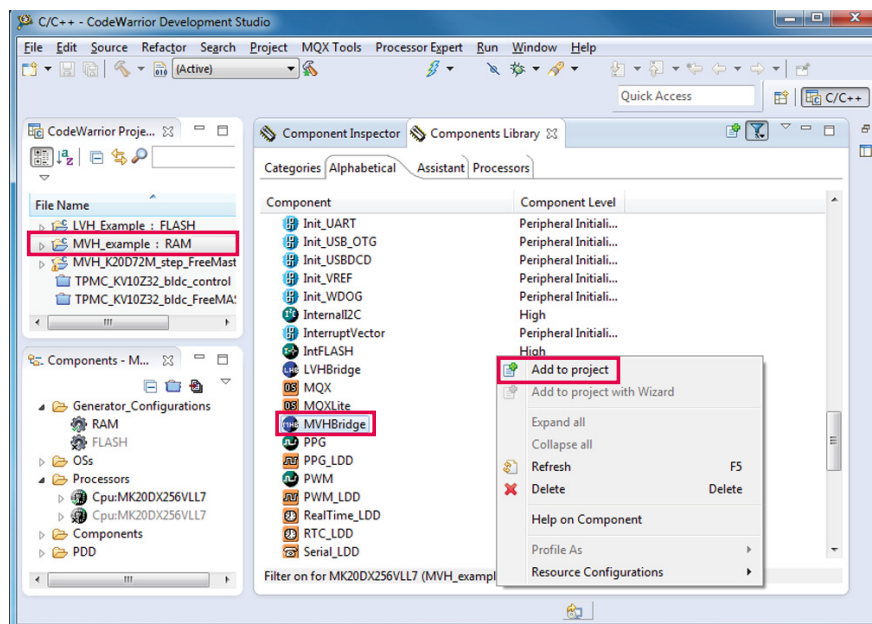

Figure 17. Add MVHBridge component to the project
1. Find MVHBridge in the Components Library and add it into the project (see Figure 17).